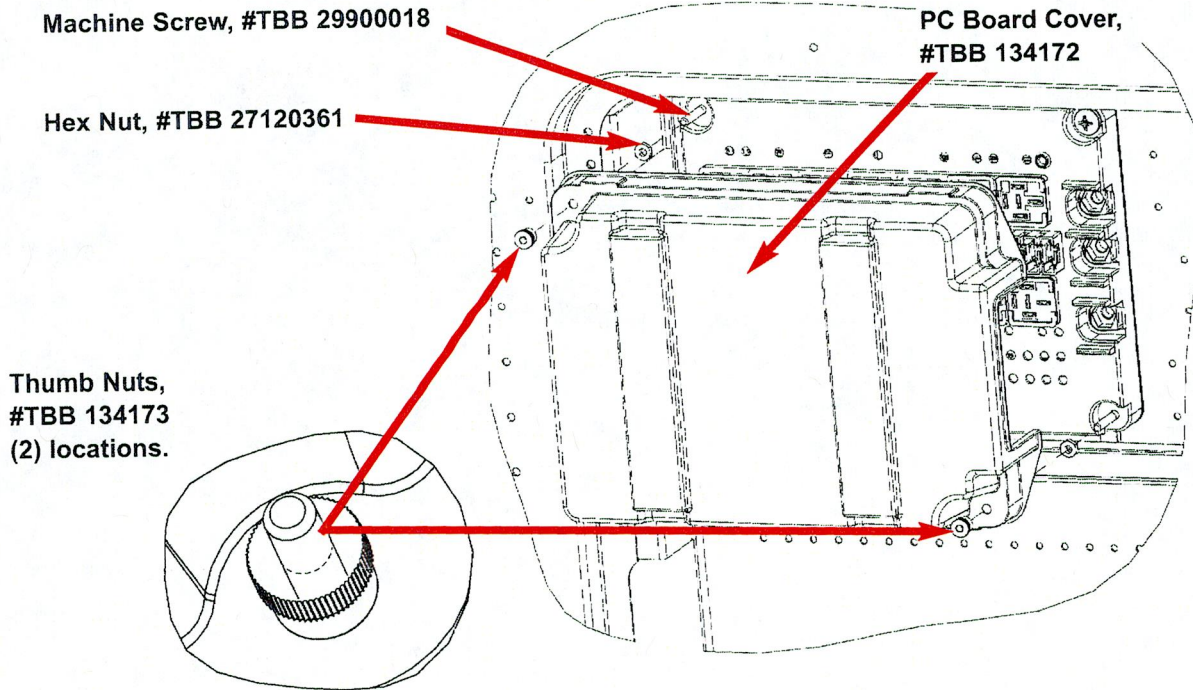

Figure 2
6. Install Screw, #TBB 29900018 through the back side of the panel and through the PC Board so that the threaded end of the screw projects beyond the PC Board. **(Figure 2)**